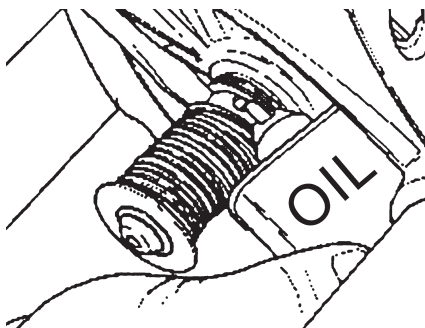

Figure 114
- To oil the Lower Floating Sheaves, rotate the Main Spindle by hand (clockwise) until you find the hole in its Sleeve. This hole may be difficult to find because of the Motor Spring that fits over the Sleeve. When you find the hole, spread the Spring Coils that cover the hole with a Large Straight Blade Screwdriver. Then apply 2-5 drops of oil in the hole, as shown in Figure 114.